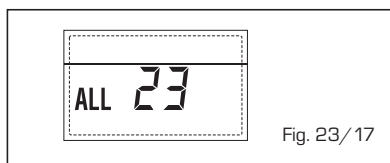

Fig. 23/17
- ANOMALÍA SONDA DEL COLECTOR SOLAR (S1) "ALL 24" (fig. 23/18)